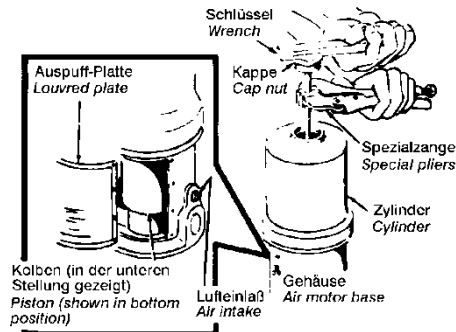

figure 2
- f) Put grease on all parts with a light, waterproof grease before installing them. Install internal valves and rubber rings of the external valves. Cut off pegs of the internal valves (see figure 2 and 3).